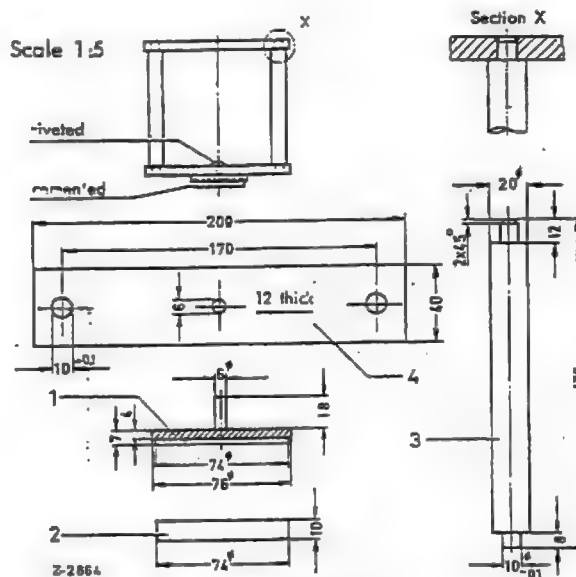

Fig. 42-12/21
15. Insert the heat screening plate (7) in the piston in such a way that the recess in the plate fits accurately into the lug of the piston and that the contact surface for the friction pad points toward the fixing eyes (see Fig. 42-10/25). Now insert the fixture (17) in the brake caliper and press the heat screening plate into the piston (Fig. 42-12/22).